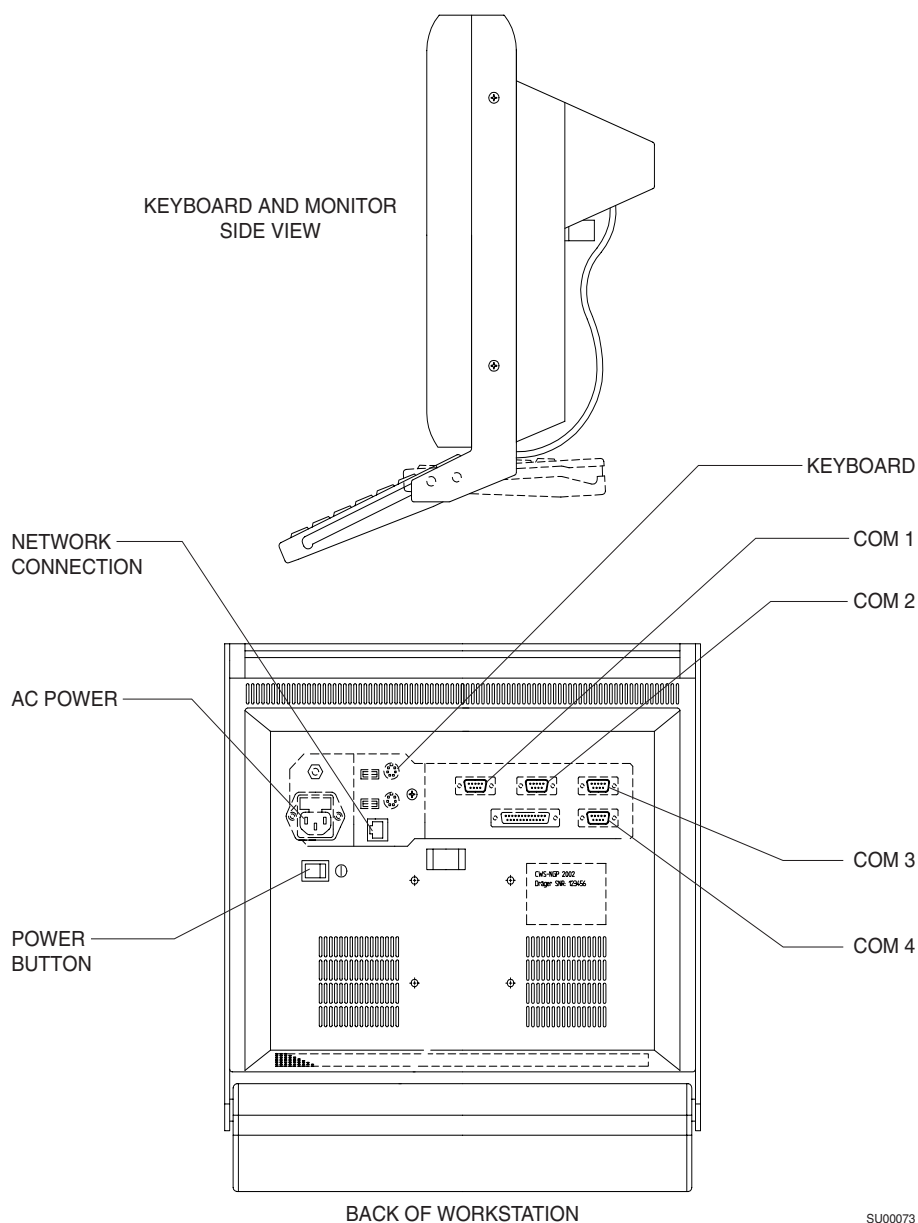

Figure 5. 4SYS Medical Grade Workstation Cable Connections
12. Reconnect all cables to the rear of the 4SYS Medical Grade Workstation. Refer to Figure 5 for labeled connection diagram.